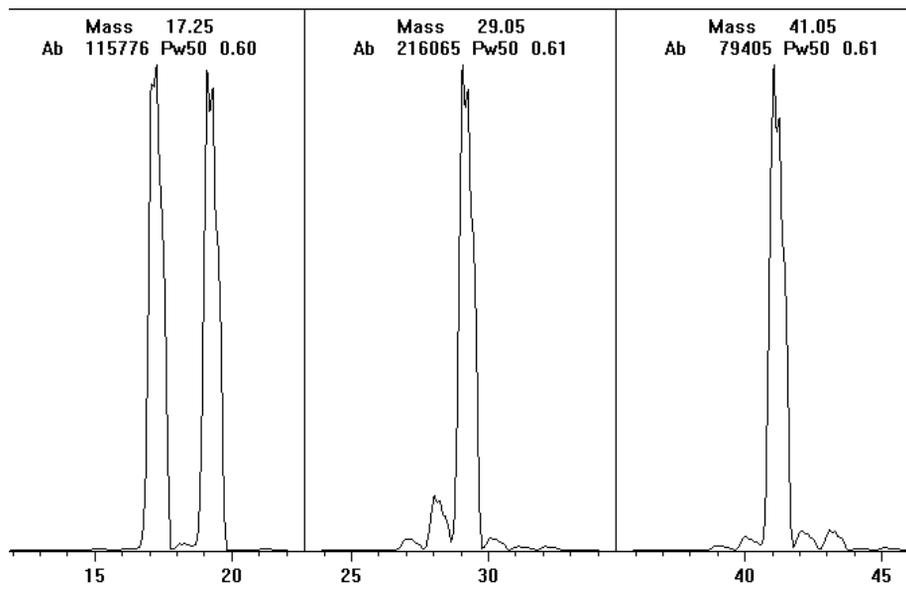

Figure 2. Looking for air leaks
**Always** look for small air leaks when setting up methane flow. Select **Methane Pretune** from the Setup menu in the Agilent MassHunter GC/MS Acquisition software, and follow the system prompts. See the software online help for additional information. Start with a good PCI tune file. (See **Figure 2** on page 55.) The abundance of  $m/z$  19 (protonated water) should be less than 50% of  $m/z$  17 for acceptable PCI performance. For NCI, the abundance of  $m/z$  19 (protonated water) should be less than 25% that of  $m/z$  17. If the MS was just pumped down, look for the abundance of  $m/z$  19 to be decreasing.